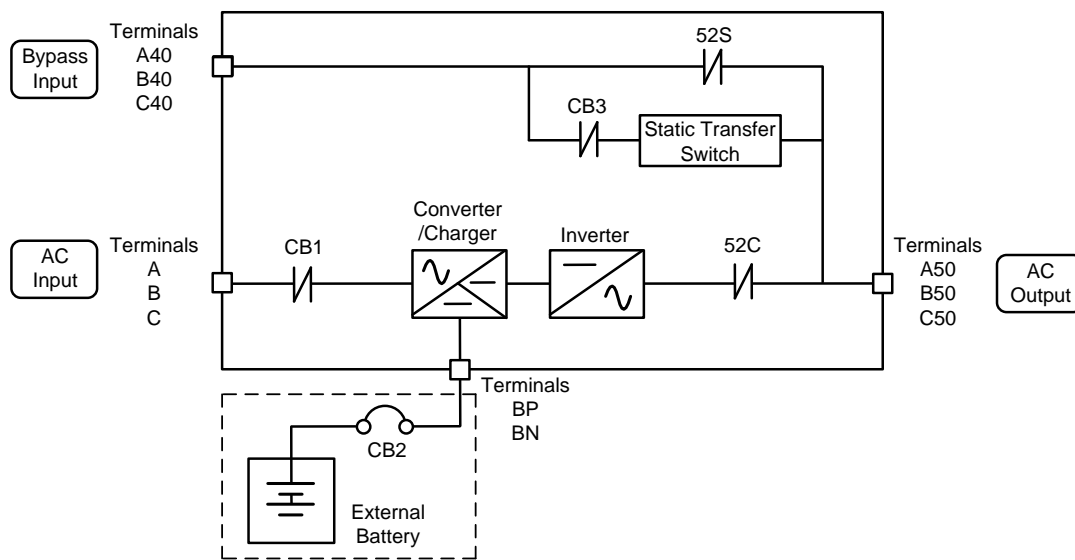
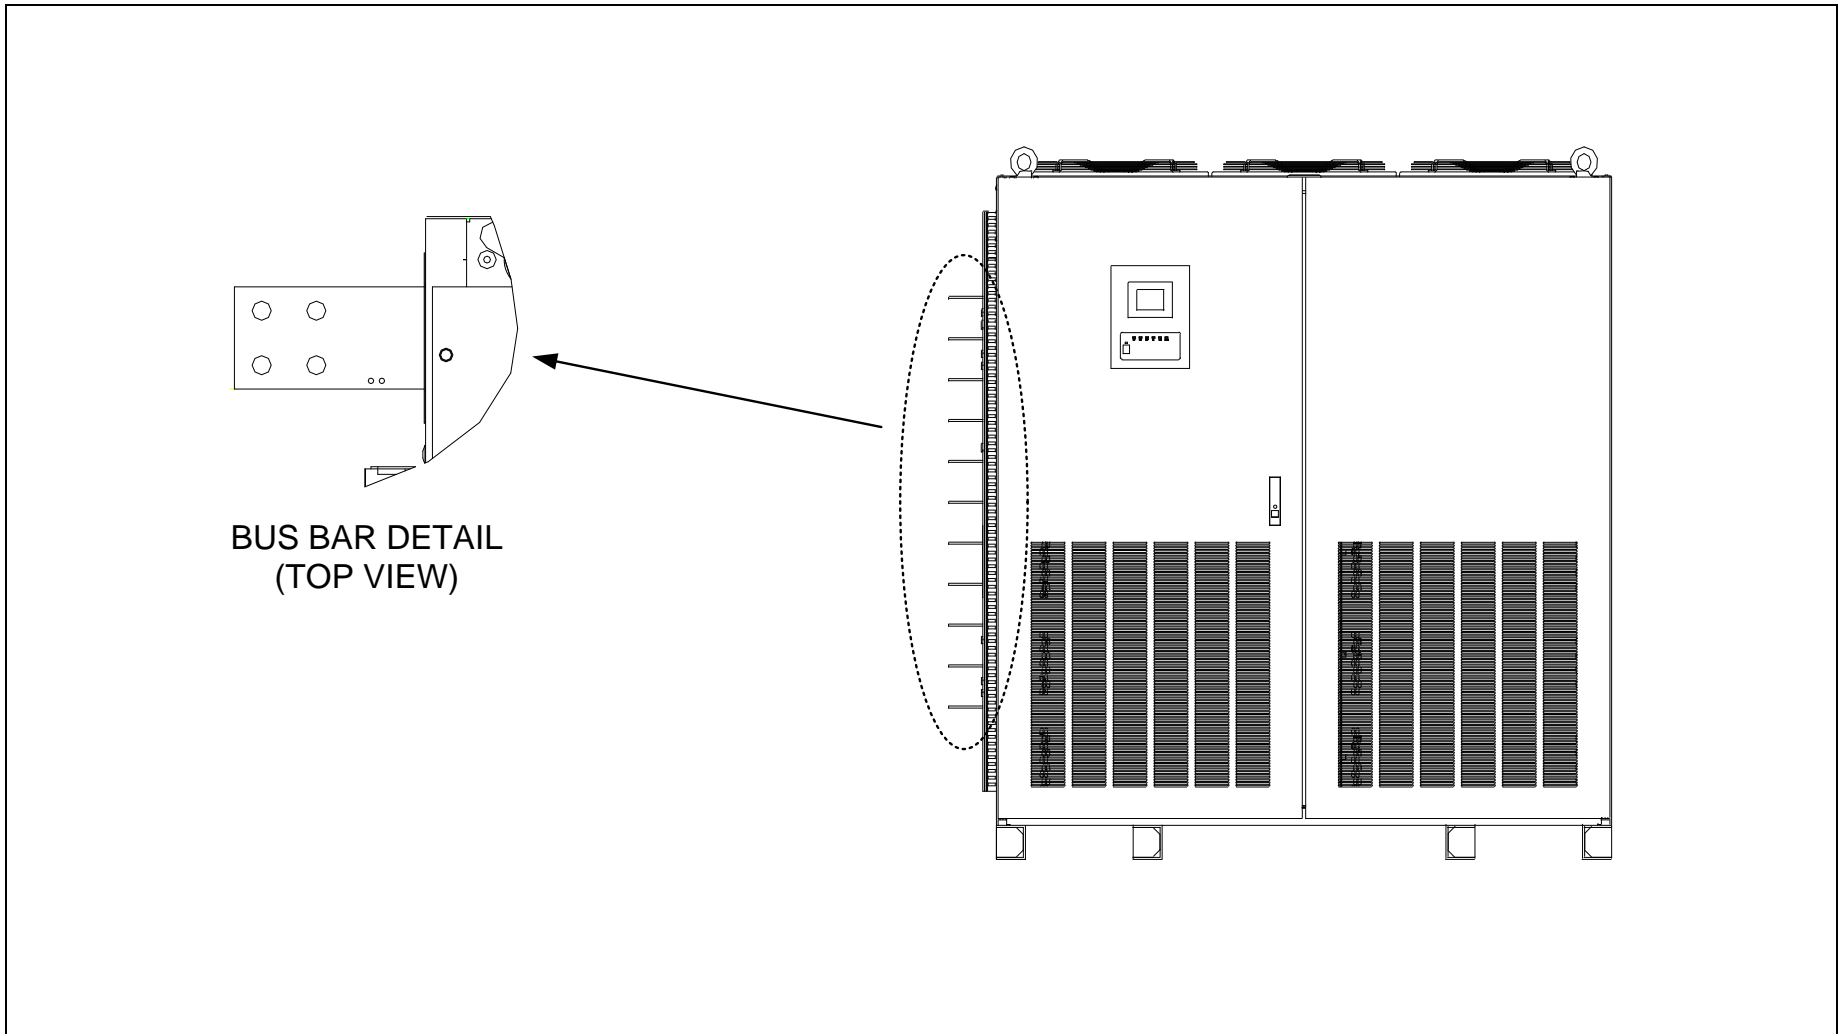

Figure 5-1 UPS Terminal Designation
Figure 5-8 Detail of the main cabinet bus bars (650kVA & 750kVA)
- g.) Confirm the capacity of the UPS being installed. Identify the input/output power Terminal blocks accordingly as shown in the Figure 5-1 thru Figure 5-11.
- (1) Control wire Inter-connect
- i.) Connect the grounding conductor from the input service entrance to the UPS Ground Bar (E).
- j.) Two (2) sources feeding the UPS:
- (1) Connect the AC input power cables from the input service entrance to the AC input power terminals, identified as A, B, C in Figure 5-1 thru Figure 5-8. Input cables must be sized for an ampere rating larger than the maximum input drawn by the converter. (Refer to equipment nameplate for current ratings.) Confirm that an external bypass input circuit breaker (MCCB) is installed (refer to WARNING 4, page 5). Connect the bypass input power cables from the input service entrance to the bypass input power terminals, identified as A40, B40 and C40 in Figure 5-1 thru Figure 5-8. Bypass input cables must be sized for an ampere rating larger than the maximum output current capacity of the UPS. Refer to Table 5-4 for recommended cable sizes.
- k.) One (1) source feeding the UPS:
- (1) Confirm that an external input circuit breaker sized to protect both the AC input and the bypass line is installed. (Refer to equipment nameplate for current ratings.) Connect the bypass input power cables from the input service entrance to the bypass input power terminals, identified as A40, B40 and C40 in Figure 5-1 thru Figure 5-8. Input cables must be sized for an ampere rating larger than the maximum current capacity of the UPS. Refer to Table 5-4 for recommended cable sizes.
- (2) Using adequately sized conductors and referring to the appropriate figure identified in Figure 5-1 thru Figure 5-8, connect jumper bypass terminals A40, B40, C40 to AC input power terminals A, B, C as identified in Figure 5-1 thru Figure 5-8.
- (1) Confirm the number of units to be connected in parallel. Identify the input/output power terminal blocks and control wire connections for parallel operation systems as shown in the appropriate Figure 5-1 thru Figure 5-8.
- (2) Connect the external control wire and power wire.
From UPS AC Output Terminals to Toshiba Tie Cabinet (TTC) (Refer to Figure 5-1 thru Figure 5-8)